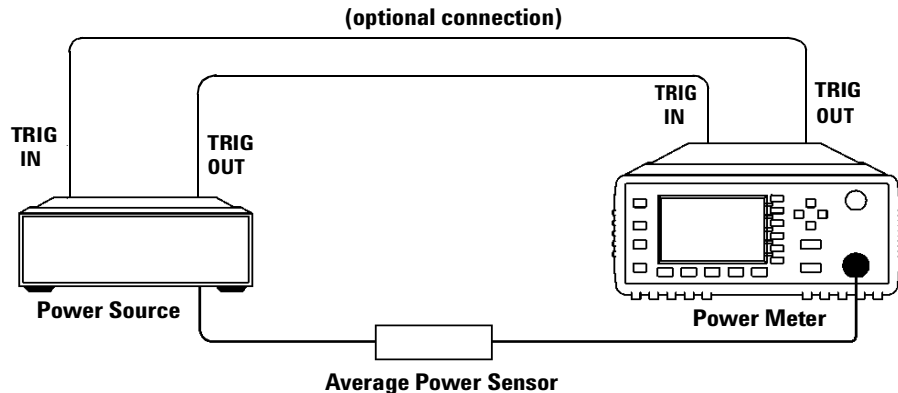

Figure 2-16 TRIG IN and TRIG OUT connection diagram between power meter and power source.
These modes are used to eliminate the need for lengthy test routines, while increasing measurement throughput by reducing overhead of communication with the controller. The sweep feature allows you to make power measurement by quickly stepping through a series of frequencies or power levels. Configuration shown in Figure 2-16 illustrates the triggering connection required to synchronize power meter measurement to the power source settings.
- 2 Connect power meter **TRIG OUT** to power source **TRIG IN** using a BNC cable. The same connection is applied for power source **TRIG OUT** to power meter **TRIG IN**. See Figure 2-16.